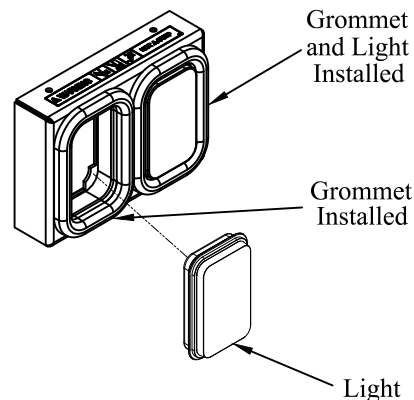

Figure 25: Light kit parts assembly.
- 17. **Press** the rubber grommets into the light holes (Figure 25).
- 22. **Push** lights into installed rubber grommets (Figure 25).